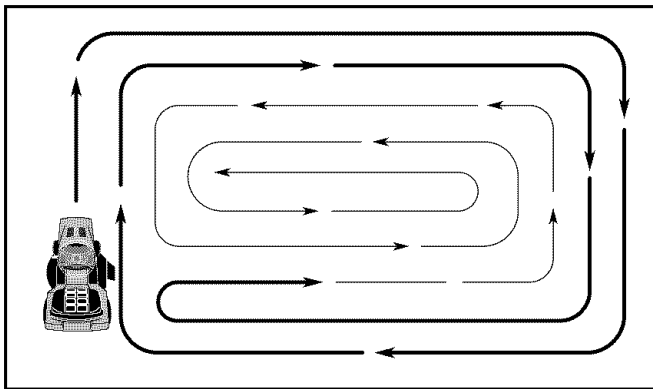

FIG. 7
- When mowing large areas, start by turning to the right so that clippings will discharge away from shrubs, fences, driveways, etc. After one or two rounds, mow in the opposite direction making left hand turns until finished (See Fig.7).